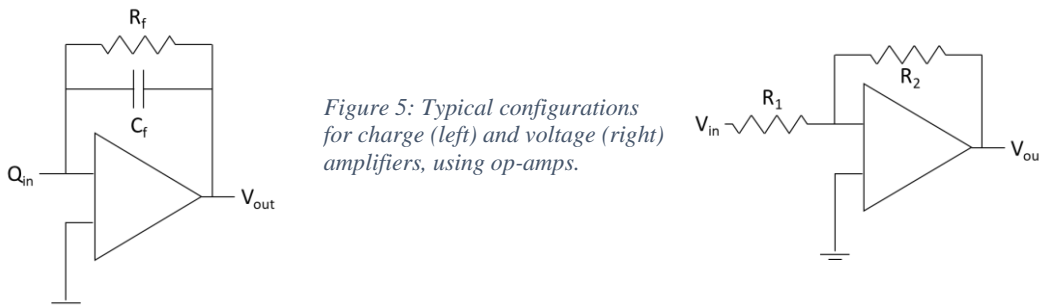

Figure 5: Typical configurations for charge (left) and voltage (right) amplifiers, using op-amps.
There is a near infinite number of ways an op-amp can be used in a circuit to produce whatever type of amplifier you can imagine. Figure 5 shows some typical choices for a charge and a voltage amplifier.
- Why are the amplifiers shown in Figure 5 charge and voltage amplifiers? What are their amplification factors?